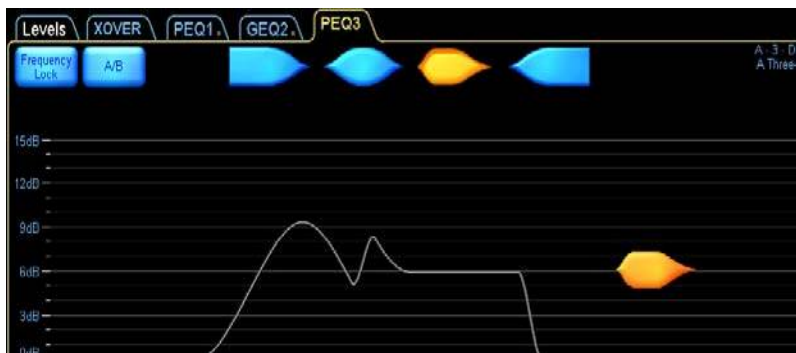

Figure 3-26
1. Tap the Mesa Filter type (Figure 3-26).